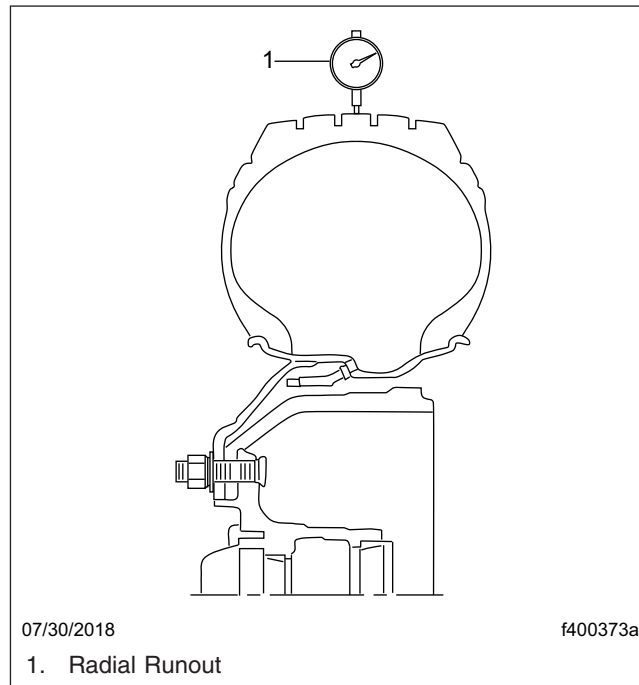

Fig. 7, Radial Runout Check for Tires
2. Using a tire runout gauge, check the radial runout. See Fig. 7. Write down the measurement for later use to avoid vibration complaints.